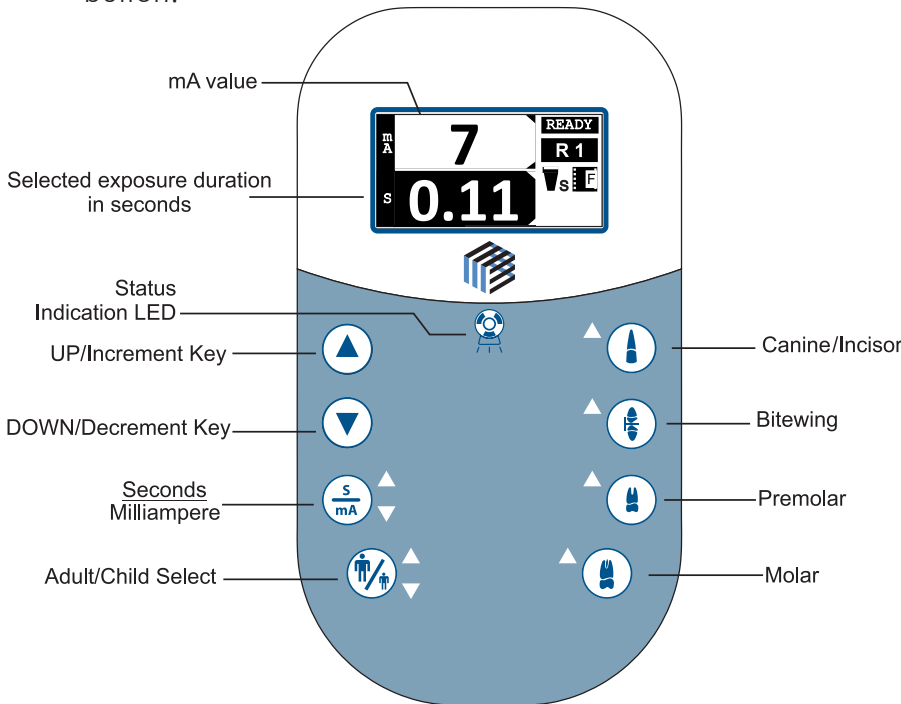

Figure 129
- Using the Control Console press the keys **Molar** followed by **bitewing**, **canine**, **premolar**, **molar**, **canine**, **bitewing** and **S/mA** as shown in Figure 129 .
- Using the Control Console press the keys **Molar** followed by **bitewing, canine, premolar, molar, canine, bitewing and S/mA** as shown in Figure 129 .